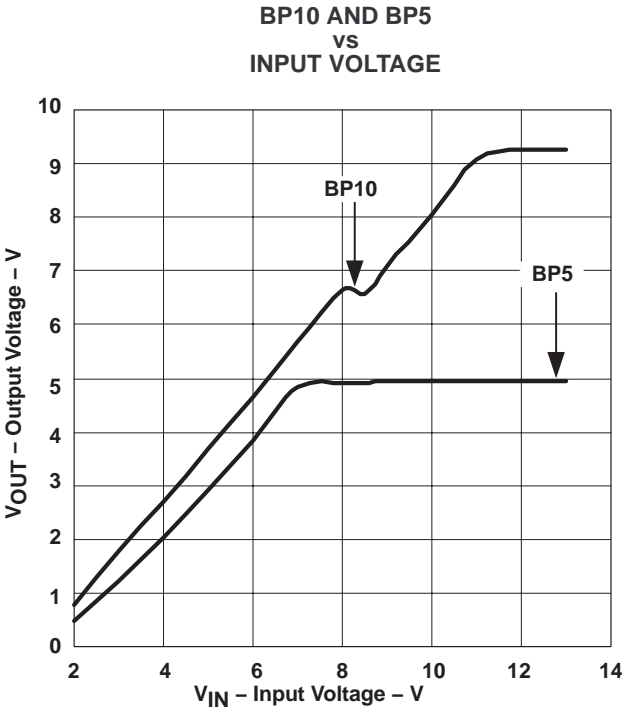

Figure 3
The second tier consists of a fault counter. The fault counter is incremented on an overcurrent pulse and decremented on a clock cycle without an overcurrent pulse. When the counter reaches seven (7) a restart is issued and seven soft-start cycles are initiated. Both the upper and lower MOSFETs are turned off during this period. The counter is decremented on each soft-start cycle. When the counter is decremented to zero, the PWM is re-enabled. If the fault has been removed the output starts up normally. If the output is still present the counter counts seven overcurrent pulses and re-enters the second-tier fault mode. See Figure 3 for typical overcurrent protection waveforms.